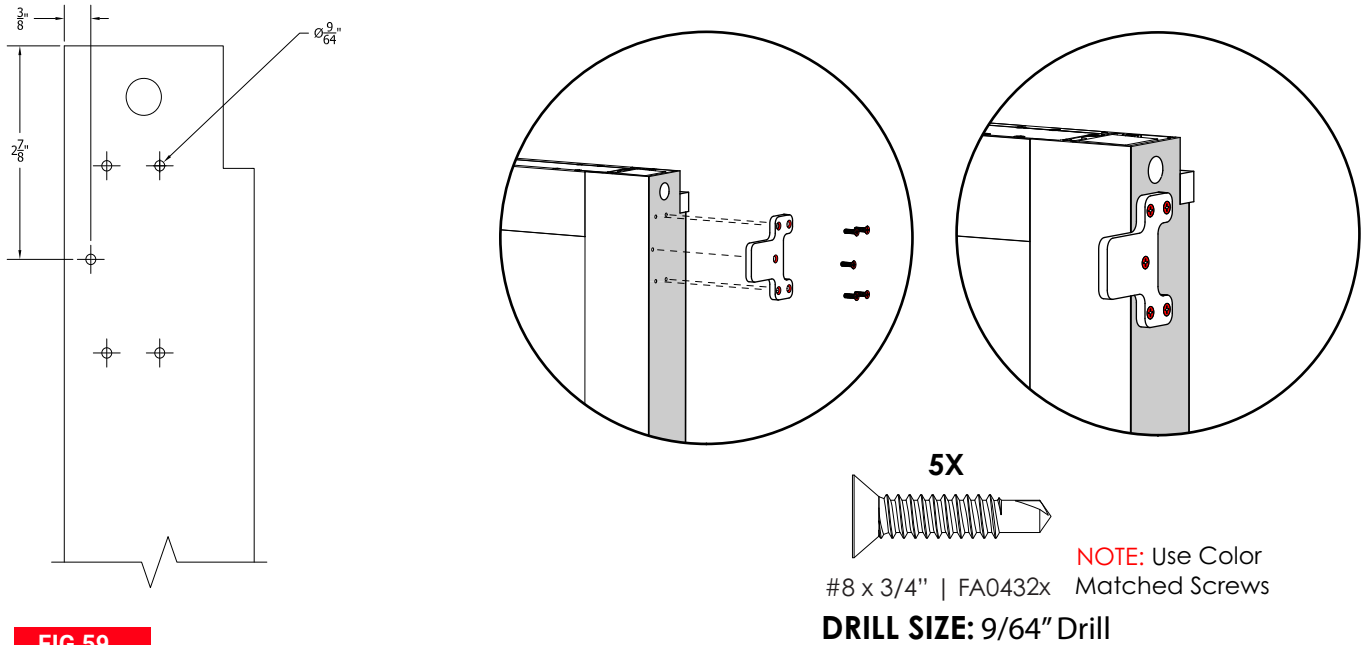

FIG 59
- Predrill and secure with screws from **FA0432 Color Matched Package** distance from the top of the interior of each Intermediate Panel. **[FIG 59]**